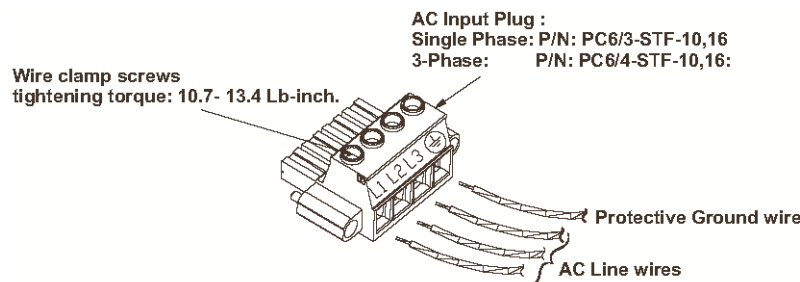

Fig.3-3: AC Input plug (3-Phase shown)
- Connect the AC wires to the terminals of the input plug supplied with the unit. To connect the wires, loosen the terminal screw, insert the stripped wire into the terminal and tighten the screw securely 10.7-13.4Lb-inch (1.2-1.5Nm). Refer to Fig. 3-3 for details. Pay attention to connect the wires according to the polarity marking on the plug.